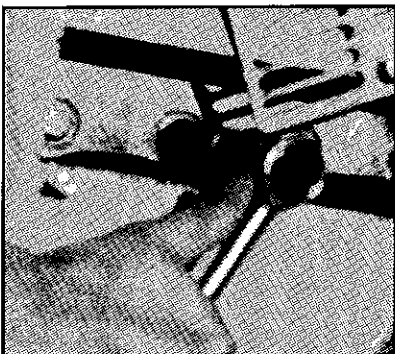

FIG. 20 - KNIFE BOLT REMOVAL
**STEP 5:** For easier removal of knife, one of the bolts will be used as a handle. Remove the knife bolt furthest from the center of flywheel and relocate it to the other side of the knife. Use 9/16 inch socket with a small extension to remove knife bolts. (Refer to Figure 20.) Bolts are screwed into tapped holes of the knives.